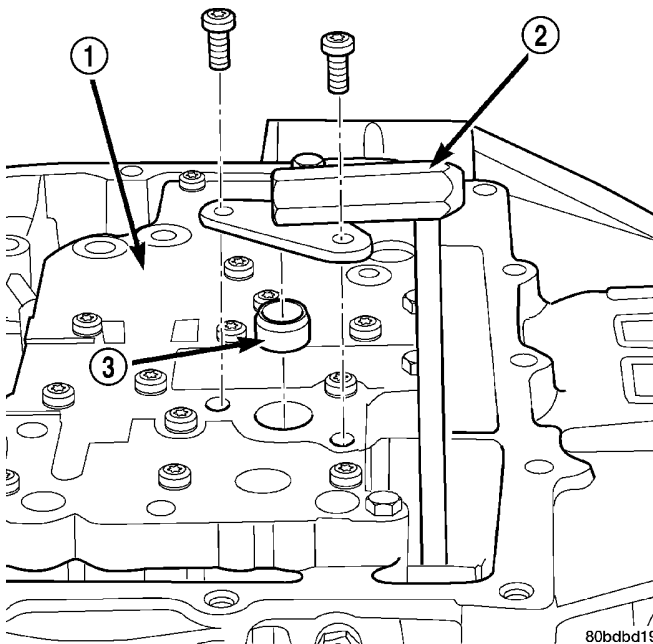

Fig. 77 Cooler Bypass Valve and Seal
- 2 - VALVE BODY ATTACHING BOLTS (7)
(38) Install cooler bypass valve and seal (Fig. 77). Torque bolts to 5 N·m (40 in. lbs.).